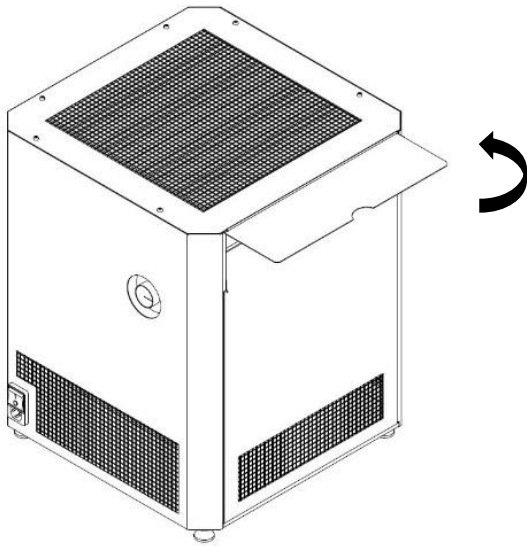

Figure 4
- 2.) Open filter door flap on the side of the unit. See Figure 4.